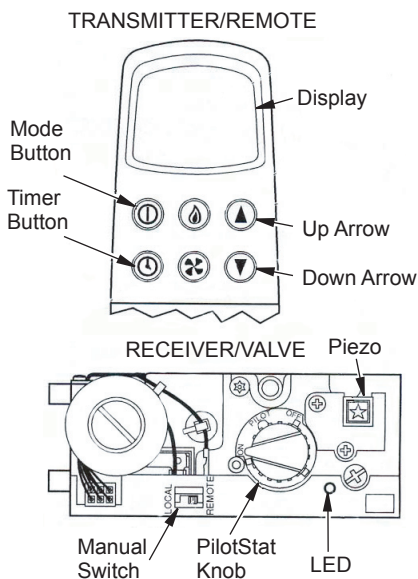

Figure 12 - RF Millivolt Valve Controls with Transmitter/Remote
The RF Millivolt valve control used on these appliances allows you to turn the gas log set on or off; use a timer to automatically operate the log set; increase or decrease flame height, fan speed or timing. An easy-to-read display gives you information about room temperature, set temperature, flame height level, fan speed level and a countdown timer, as well as a low battery indication. Figure 12 shows the location of the controls and indicators for the transmitter (remote) and the receiver (valve).
- Turn PilotStat knob to ON See Figure 12, page 10.
- Move switch to REMOTE position (see Figure 12, page 10). Remote comes on in Manual mode.